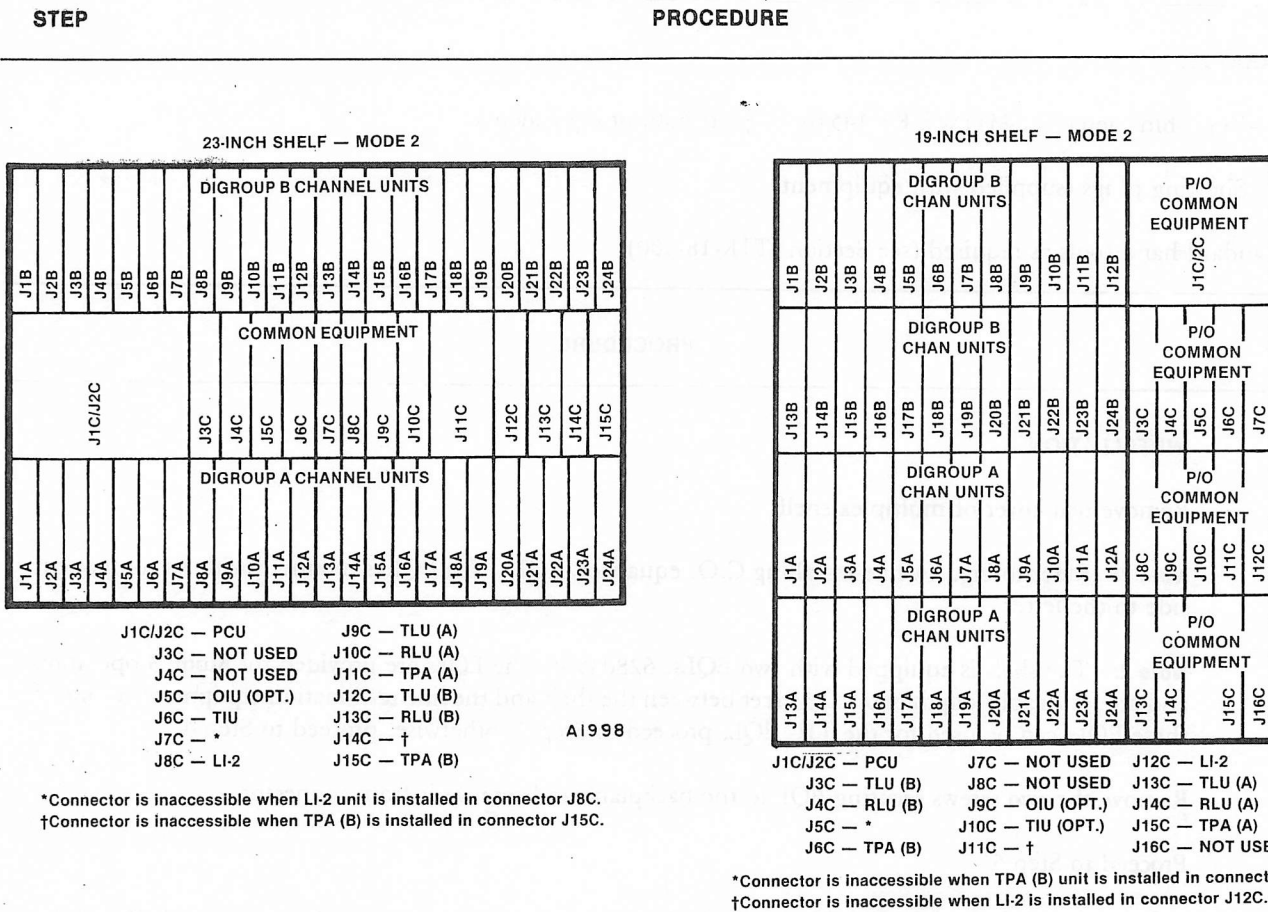

Fig. 1—D448 Multiplex Terminal, Mode 2 Operation
| 2 | Verify that connector keys are installed in multiplex shelf common equipment connectors as shown in Table A and Fig. 1. |
*Connector positions are shown in Fig. 1.